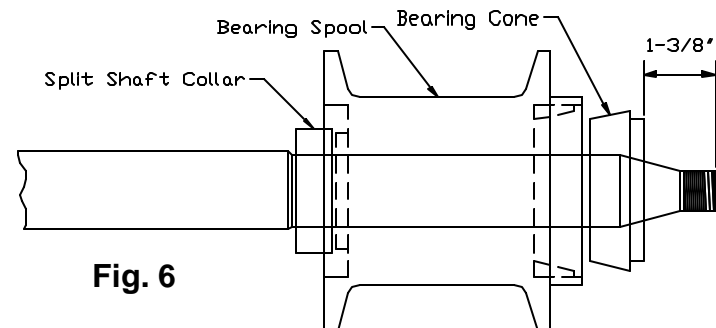

Fig. 6
11) Loosen the set screw in the split shaft collar and slide the collar onto the drive shaft as far as it will go. Leave it loose at this time. See Fig. 6
12) Slide the spool onto the shaft such that the brass bushing end goes toward the front of the drive shaft (front of car when finally installed). See Fig. 6
13) Locate the roller bearing cone, dip it in rear end grease and place it on the drive shaft with the smaller diameter end facing the front of the drive shaft. Slide it on only to a distance of approximately 1-3/8" as necessary to be able to install the modified key. See Fig. 6. It is normal for the roller bearing cone end to be tighter on the shaft than the brass sleeve end. The pinion gear and shim stack **MUST pull** the cone bearing into final position (as per step 17 below) for proper fit.